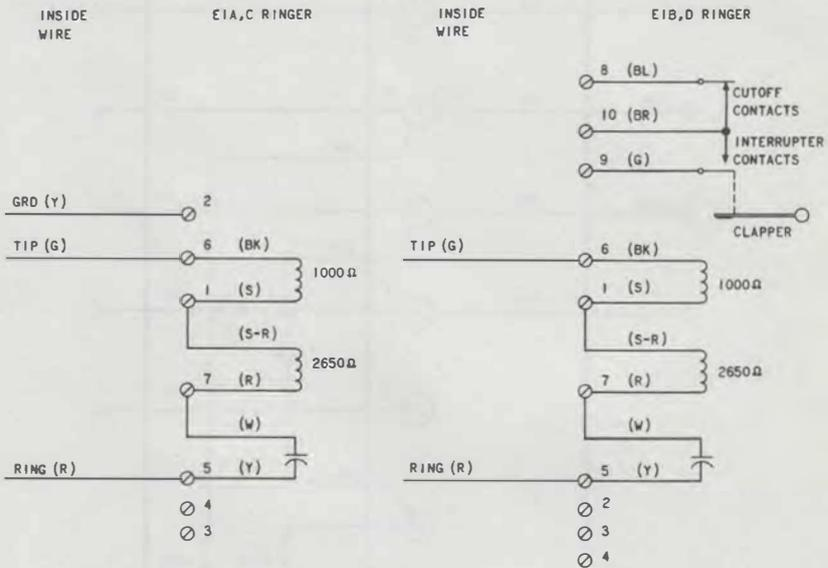
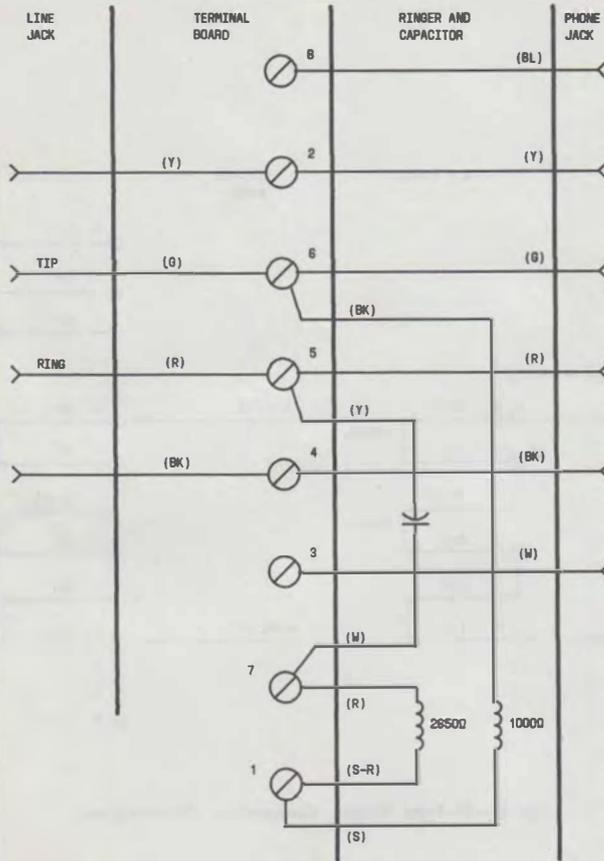

Fig. 8—E1-Type Ringer, Connections (Nonmodular)
Fig. 9—E1CM Ringer, Connections (Modular)
4.01 Connections for nonmodular type ringers are shown in Fig. 8 and modular type ringer in Fig. 9.